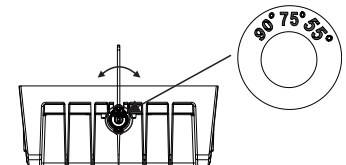

FIGURE 5.2
2. Adjust the handle to the desired Angle by turning it left and right, as shown in the picture (FIG 5.2)